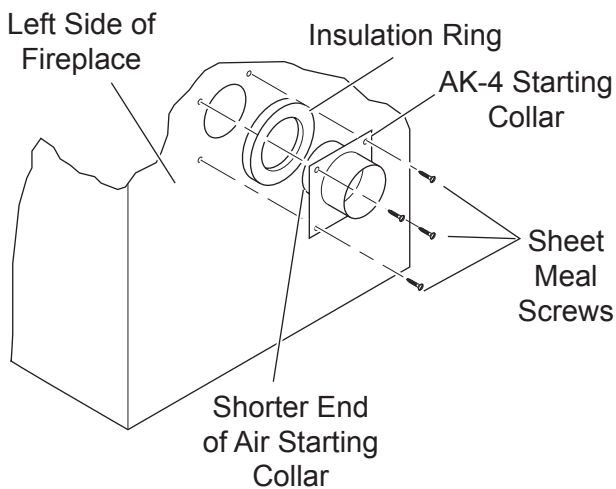

Figure 44 - Attaching Outside Air Starting Collar and Insulation Ring to Left Side of Fireplace
3. Place the starting collar (4") into the hole on the side of fireplace. Fasten it in place with the four sheet metal screws provided. *See Figures 44 and 45.*